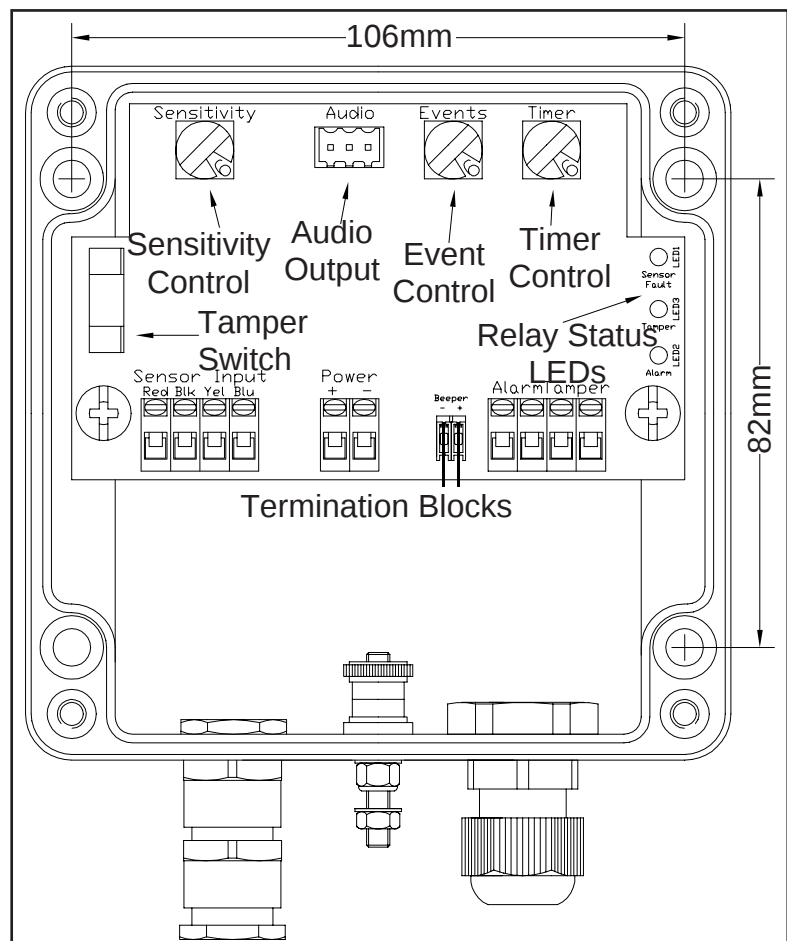

Figure 8
4. Verify that the Alarm and Tamper LEDs are both in the ON condition. Refer to Figure 8 for details of the position of these LEDs.